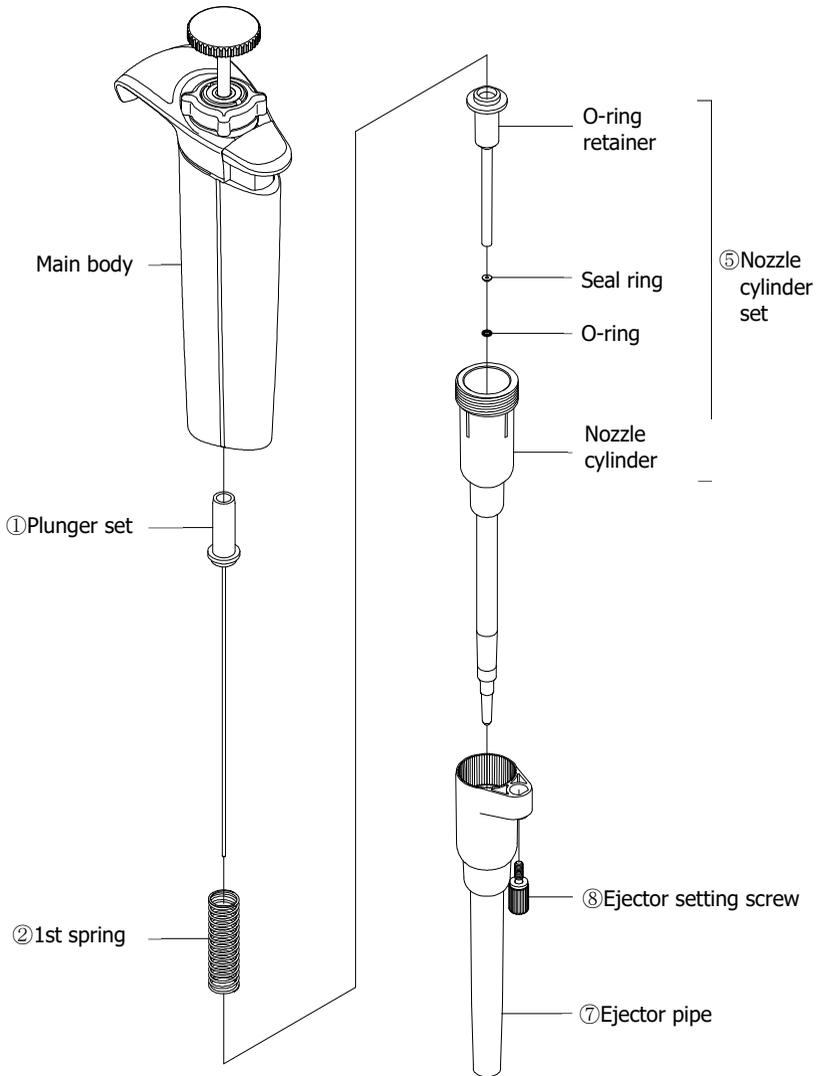
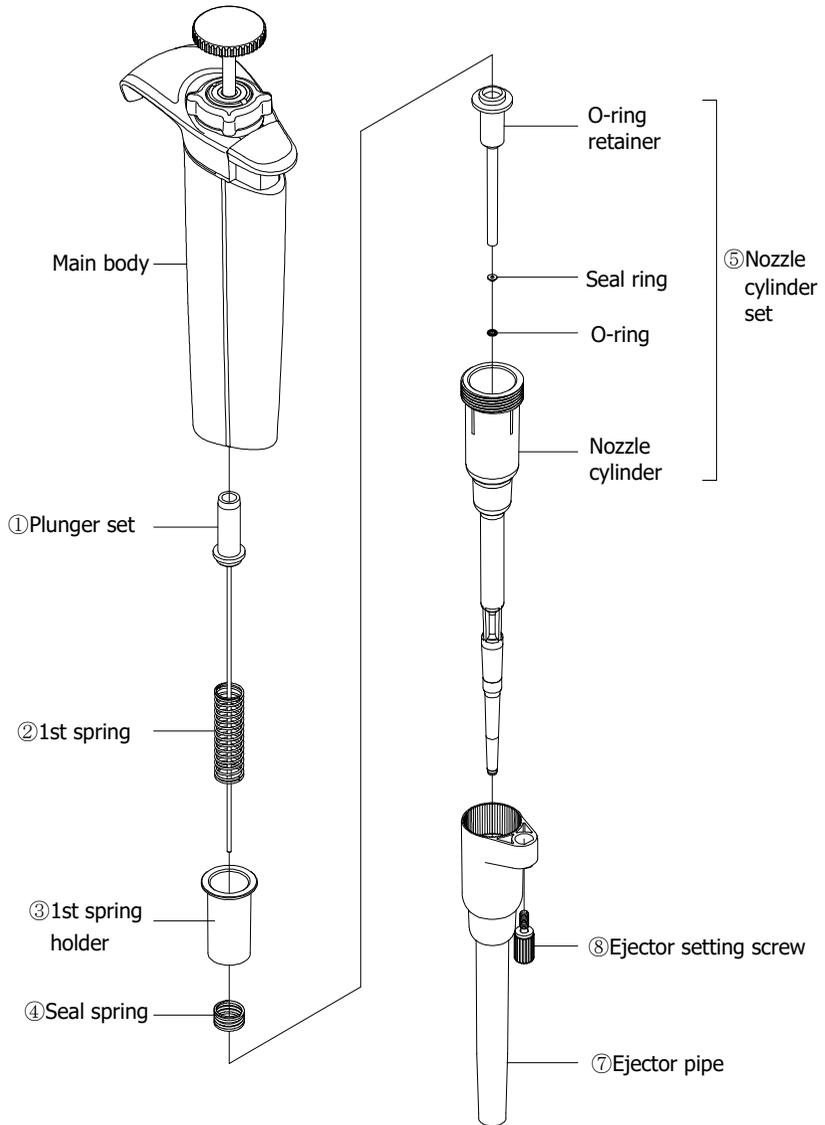
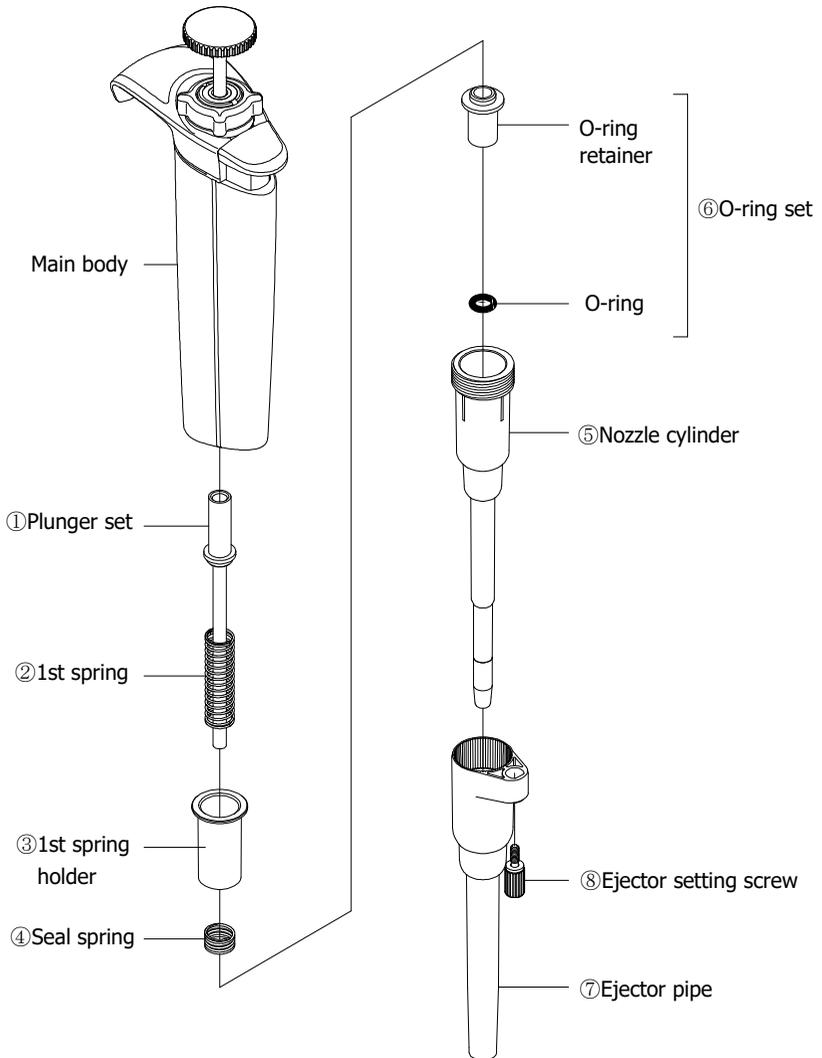
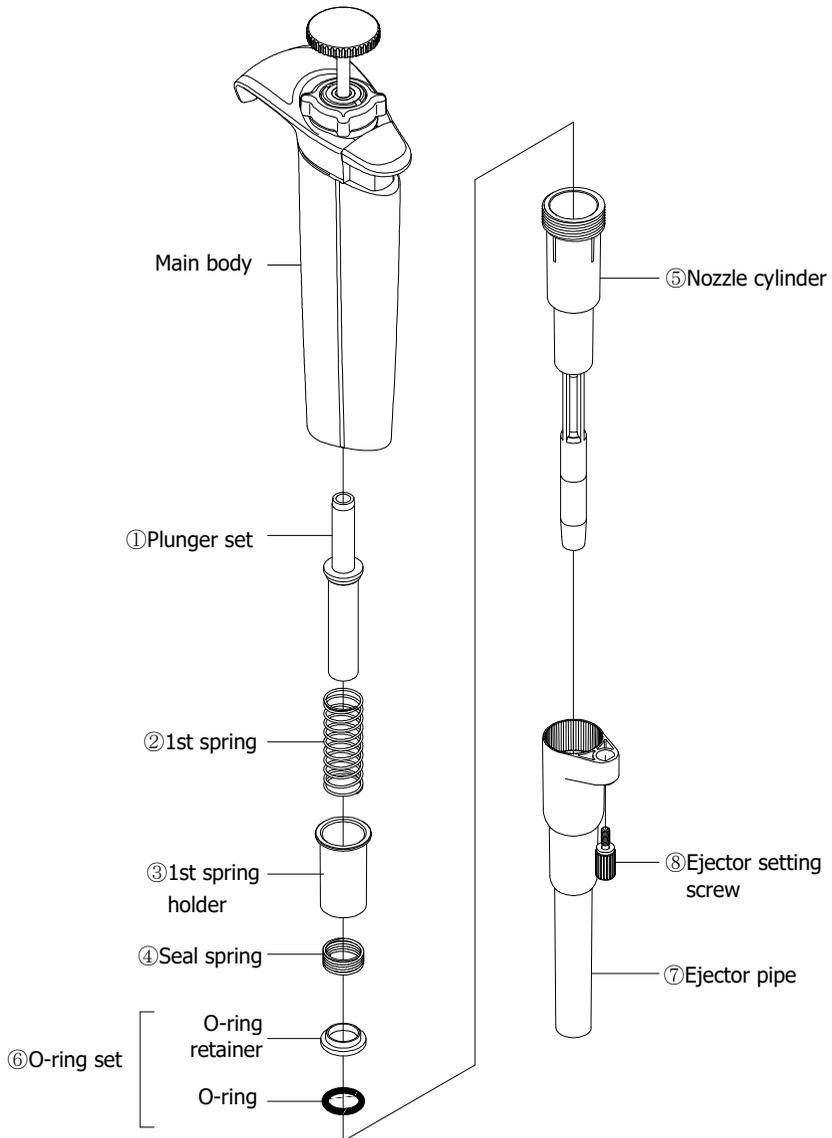

Fig. H1
Fig. H2
Fig. H3
Fig. H4
- 3) Disassemble the internal parts as shown in; (Fig. H1) for Models: 2 μ L, 10 μ L, (Fig. H2) for Models: 20 μ L, and (Fig.H3) 100 μ L and 200 μ L.
- ✓ There are very rare instances in which the O-ring and seal ring may come off during disassembly of the 2 μ L, 10 μ L and 20 μ L models, hence we have shown the respective parts detached and separated on (Fig. H1) and (Fig. H2). Assembling the seal ring and the O-ring in the reverse/opposite order will lead to; loss of accuracy and precision, not being able to aspirate the liquid and/or leakages.
- For models: 100µL and 200µL (Fig. H2), 1000µL (Fig. H3)
- Models: 2µL, 10µL (Fig. H1), 20µL(Fig.H2),100µL and 200µL (Fig. H3), 1000µL (Fig. H4)
Circled Numbers in (Fig. H1) corresponds to Parts Numbers in the replacement parts list.
Circled Numbers in (Fig. H2) corresponds to Parts Numbers in the replacement parts list.
Circled Numbers in (Fig. H3) corresponds to Parts Numbers in the replacement parts list.
Circled Numbers in (Fig. H4) corresponds to Parts Numbers in the replacement parts list.